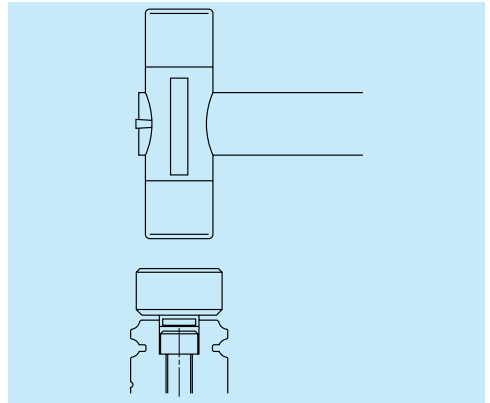

Fig. II-5-8
- To insert a cap into the rail bolt hole, use a flat tool (Fig. II-5-8). Pound the cap gradually until its height becomes flush with the rail top face.